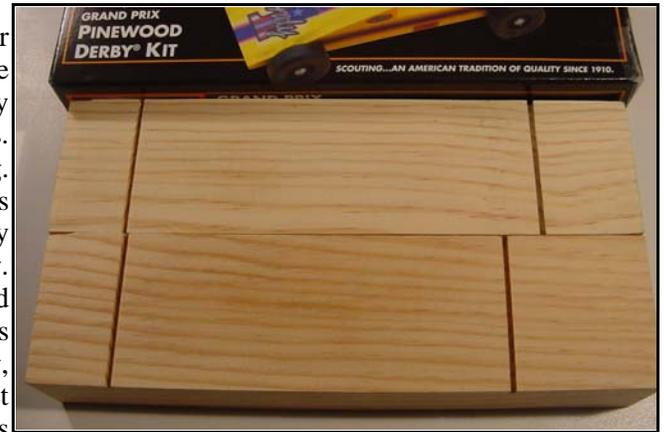
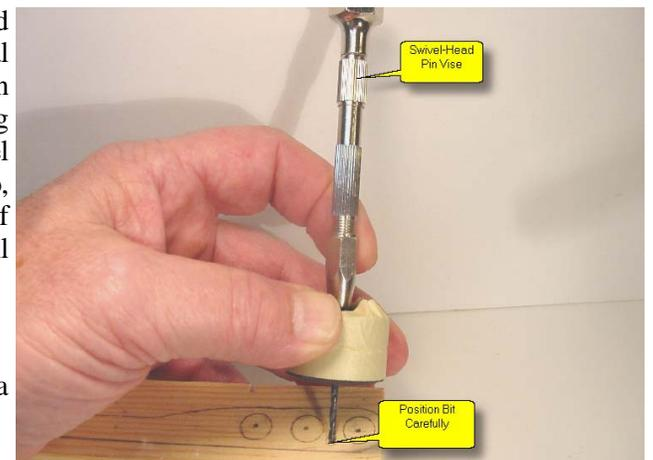

Figure 4 - Slot spacing in blocks can be substantially different. Here the slots to the right vary by 1/2" .
Figure 5 - Hole starting with guide made from 2 wheels.
Also needed is a consistent rule about distance between front and rear wheels. The National Race cars in 2005 showed that practice in the USA is approximately 50/50 between shorter wheel base as fixed by the block axle slots and a longer wheel base using drilled axle holes. **Fig 4** shows kit blocks can have substantially different slot spacing. Hammering the axles into the slots and gluing them in place prevents being able to unplug the wheel/axle by pulling in order to separately lubricate the wheel and the axle. Thus slot mounted wheels are slow. Wheels and axles, separately lubed, may be reassembled and plugged back into the hole anytime a fresh lubrication is needed, and such cars have considerably more speed. **Fig 5** from Lecture 14 shows it is easy, even for younger Cubs, to hand drill a perpendicular hole of the correct size anywhere in a soft pinewood wood block by using 2 spare wheels taped together as a No. 44 drill bit guide. Theoretically, there is very little difference in finish times for cars identical in every respect except wheel base. Actually, the weight of the front wheels when moved rearward add a tiny bit to the car's overall potential energy and final speed but amounting to only 0.1" improvement at the finish line. On the other hand, the longer wheel base may reduce center strip bumping which in itself could also increase final speed slightly. Thus, wheel separation per se is pretty much a toss up with no clear advantage. Also, one can't inspect to see if a slot is used vs. a drilled hole because of slots legally filled with wood putty, paint, etc. Therefore many will allow drilled holes as long as they are about the slot distance apart.
- Kits can have a variable rather than constant slot spacing (Fig 4)